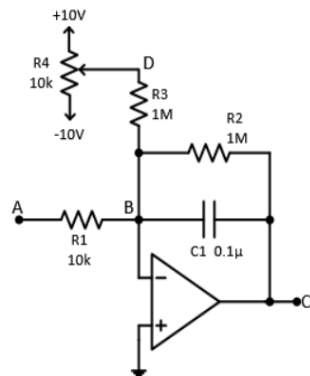

Figure 3: A compensated integrator.
- ✓ We assembled the circuit as shown in Figure 3. We set the power supplies to $\pm 10\text{V}$.